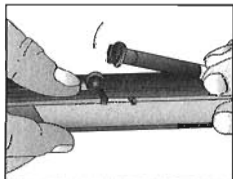

Figure 3
2. Remove the factory recoil spring guide and recoil spring. Replace with the LaserMax spring guide. Make sure the laser, cap assembly and shock buff are against the barrel. (figure 3)